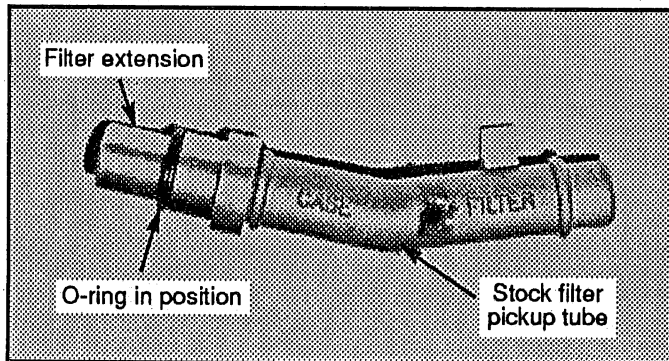

Figure 4
STEP 5. Lubricate the O-rings with ATF and push the extension tube onto the transmission end of your stock oil pick-up tube. Push the extension tube onto the pick-up tube until it stops against the shoulder on the pick-up tube. (See Fig. 4)